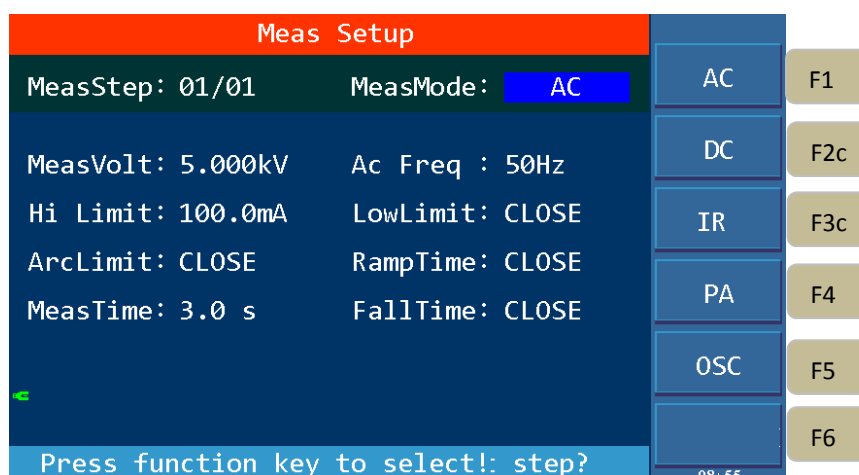

Figure 4-10 Meas Mode Setup
3. Press `[[▼]]` to move the cursor to the port format setting and enter the setting page shown in Figure 4-10.
3. Press the right arrow key to move the cursor to the test mode option, as shown in Figure 4-10, uses the F1~F5 keys to select the test mode. SME1130A has test mode of AC withstand voltage, pause mode, open short circuit detection OSC and pin detection. SME1130D has test mode of DC withstand voltage, insulation resistance, pause mode and pin detection.